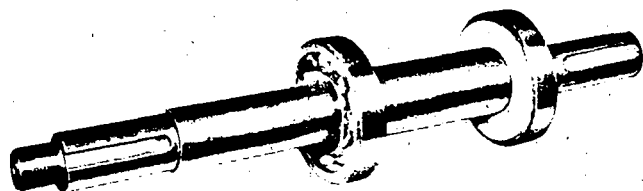

Fig. 25: Mounted grooved ball bearings
Heat grooved ball bearings (321) in an oil bath to approx. 80°C, push onto the shaft and position them together with the Nilos rings at the shaft shoulders (fig. 25). Check correct positioning at the shaft shoulders as the bearings cool. In the case of oil lubrication, the grooved ball bearings are mounted on the shaft in the same way, but without the Nilos rings.